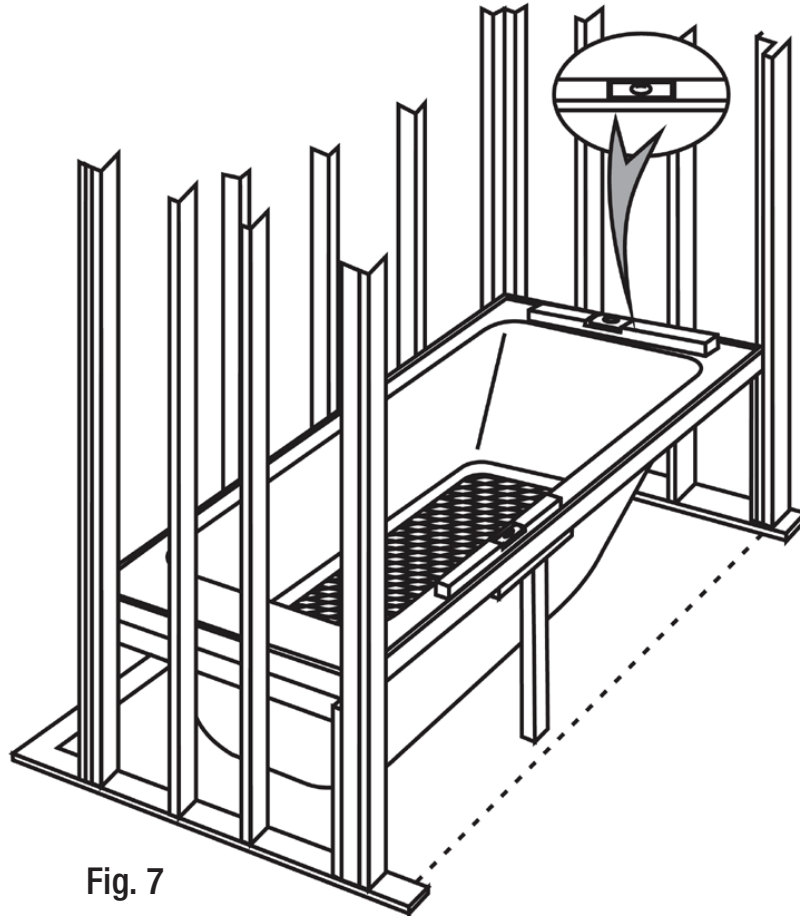

Fig. 7
13. Your tub base must be set in a bed of mortar or plaster. Lay the mortar where the frame will rest on the floor leaving a 2 in. (5.08 cm) clearance around the drain area. Run a bead of adhesive on the strapping to secure the rim of the tub to the studs and on the reinforcing "T". Set the bathtub into place making sure the mortar squeezes up around the base. Check level as in Fig. 7 to be sure that the unit is level and resting very firmly on the floor and strapping.